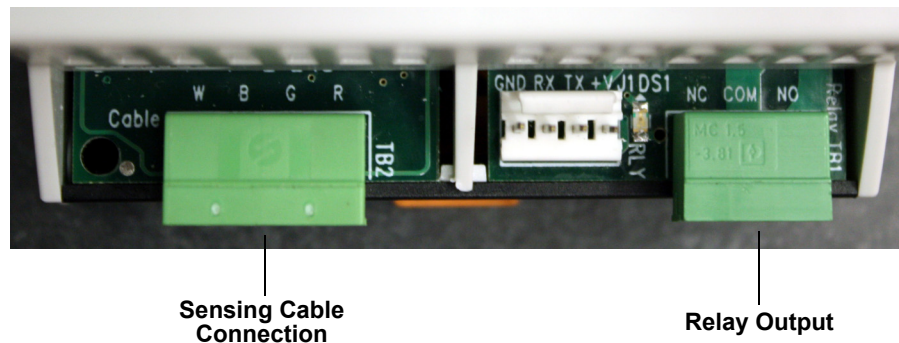

Figure 2.3 Relay Output (TB1) and Sensing Cable Connection (TB2)
- Figure 2.3 Relay Output (TB1) and Sensing Cable Connection (TB2). 15